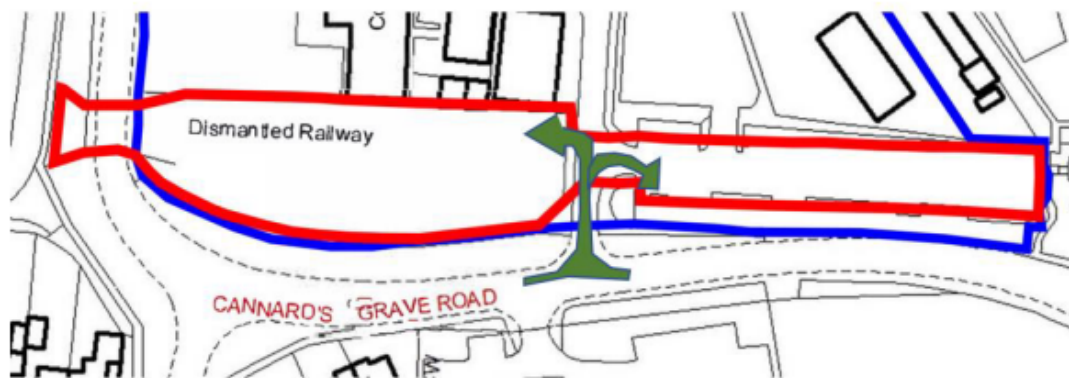

Figure 1: Plan showing works access from Cannard's Grave Road via carpark access road.
1. Figure 1 shows the route of all vehicles to and from site which is via the access road to the Council carpark. There will not be more than one delivery vehicle on site at any one time.